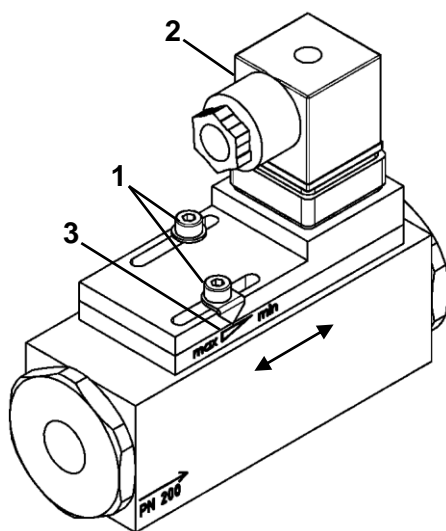

Figure 8: MR1K, HD1F/HD2F, HR2K1/HR2VK1 setting
To adjust the switching point of the flow switches MR1K, HD1F/HD2F, HR2K1/HR2VK1 (Fig. 8) the internal hex socket screws pos. 1 must be removed. The required switching value can be adjusted via a sideways adjustment of the switching head pos. 2. The min./max. indicator pos. 3 serves for orientation. Refasten the internal hex socket screws pos. 1.
The function schematic of the lengthwise adjustment of the switching head (Fig. 8) also applies for the devices RVM, MR, HR1MV, FW1-..GP/GM and FW3.